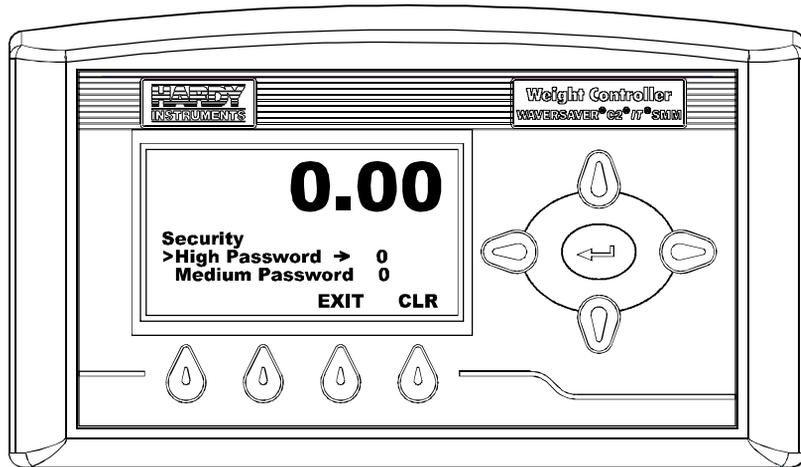

FIG. 278 SECURITY MENU/SETTING HIGH PASSWORD
Step 2. Press the Enter button. The Security Menu appears. (See Fig. 278)